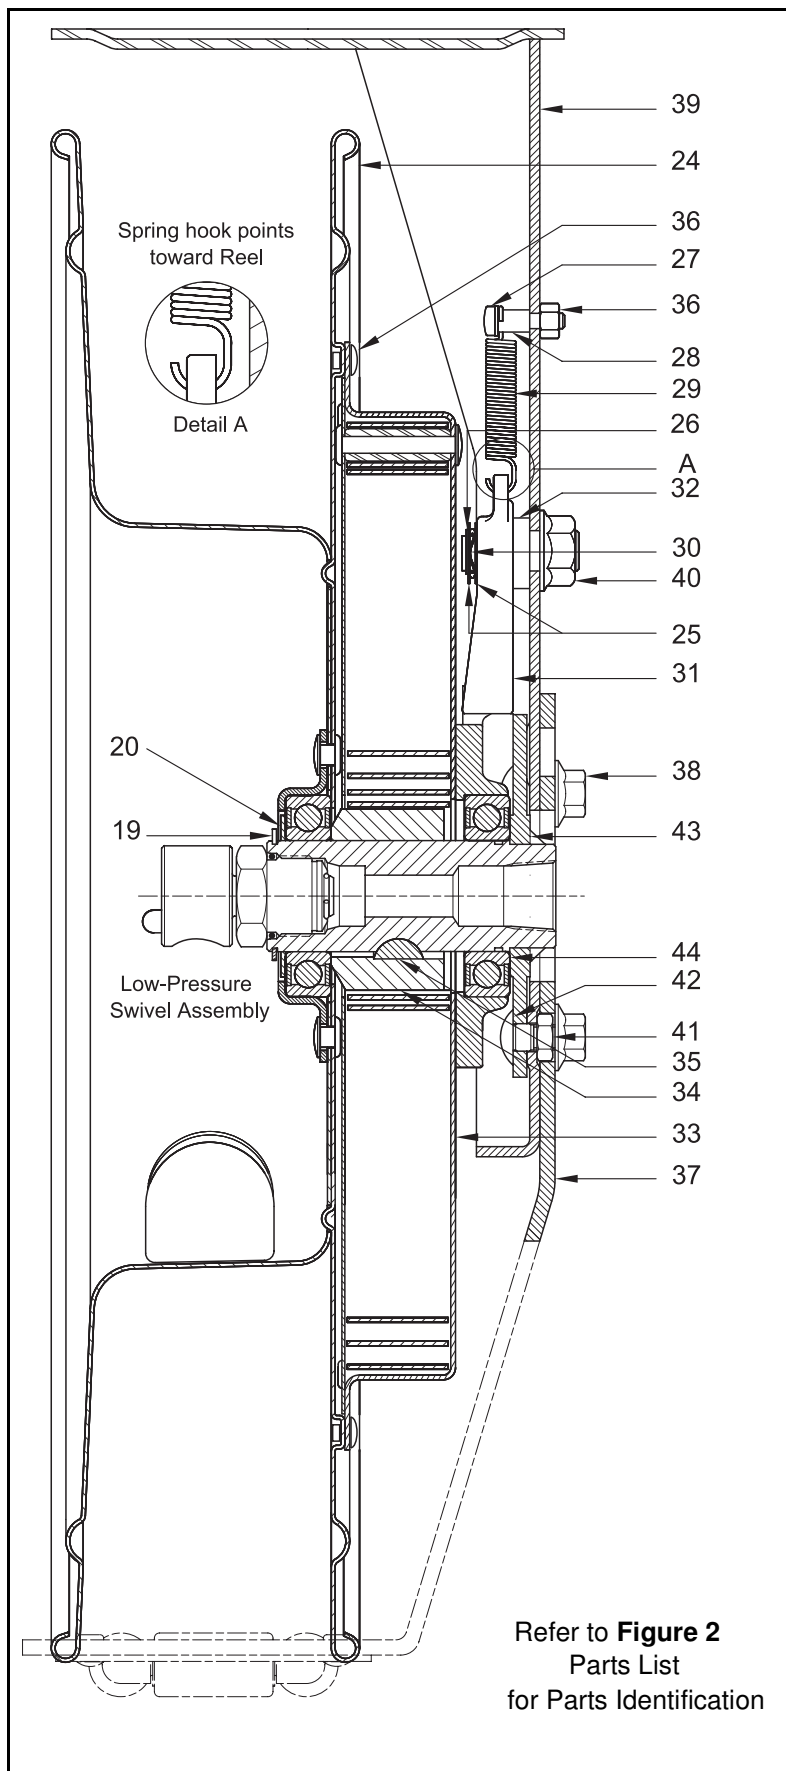

Figure 3 Heavy-Duty Hose Reels - Section View
4. Install Pawl (31) [flat side first] onto the Pawl Shaft.
5. Install Washer (25), Wave Spring (30), and additional Washer (25) onto the Pawl Shaft.
6. Install Retaining Ring (26) onto the Pawl Shaft.
7. Install Pawl Spring (29) into the eye on the Pawl. See **Figure 3** for proper orientation.
8. Install Screw (27) into the large diameter end of Pawl Spring Sleeve (28).
10. Install Nut (36) onto the Screw.